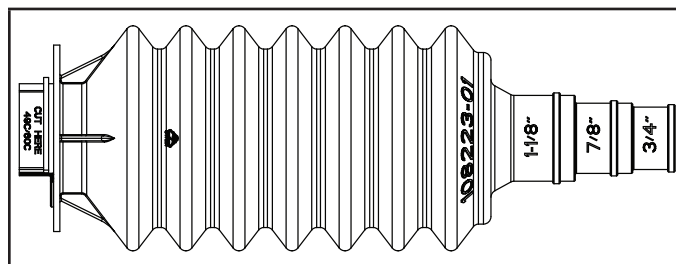

FIGURE 8. Line Set Joint Sleeve
- 2 - Determine the refrigerant suction line size. For suction lines of 7/8" or 1-1/8", trim the smaller end of the larger line set joint sleeve accordingly to accommodate the refrigerant piping (see figure 8).